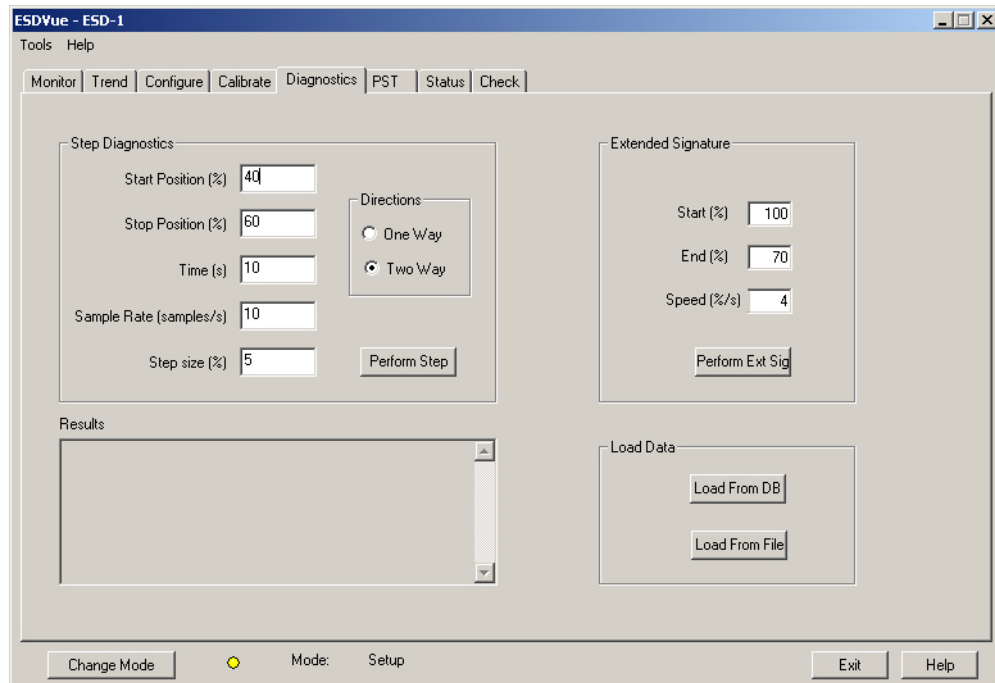

Figure 239 - Diagnostics Tab
1. Click the **Diagnostics** tab (*Figure 239*).